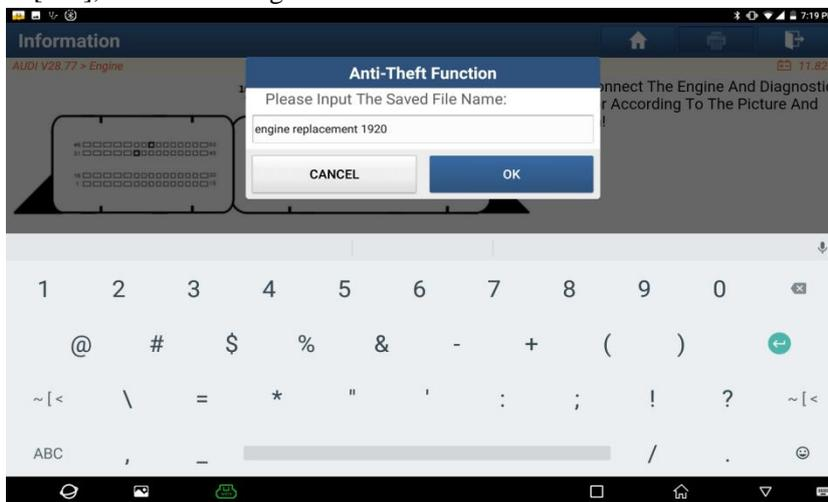

Figure 16
3.2.1.12 Click [Yes], as shown in Figure 16.